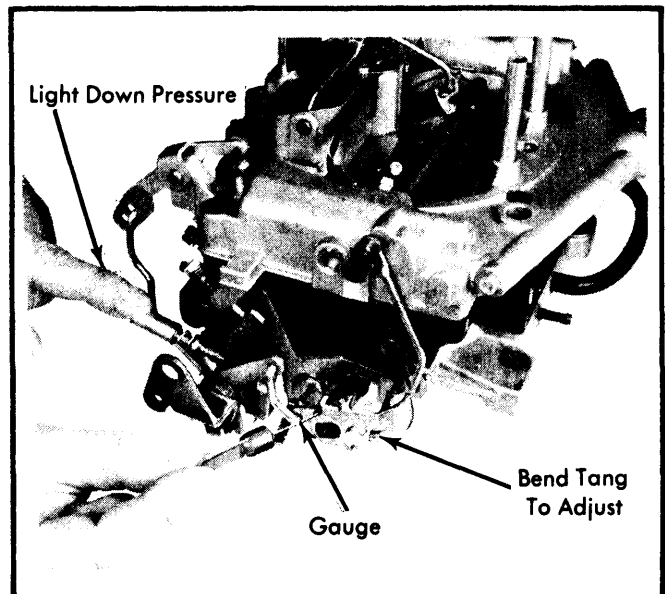

Fig. 14 Adjusting Secondary Throttle Lockout
1) Move fast idle control lever to wide open choke position. Measure specified clearance between lockout lever and stop. Clearance can be checked using a specified drill or pin gauge. See Fig. 14.